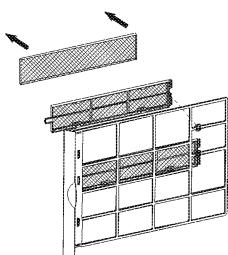

Figure 16
- Replace the two filter elements and secure them in the frames (See Figure 16).